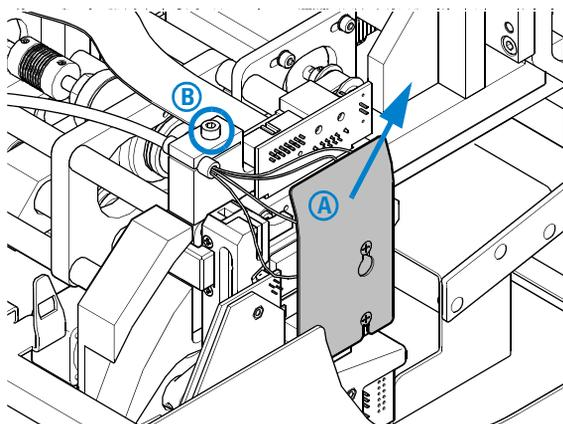

Figure 38
- 4 Remove the capillary cover (A) and open the thumb screw of the strain relief (B). See Figure 38.